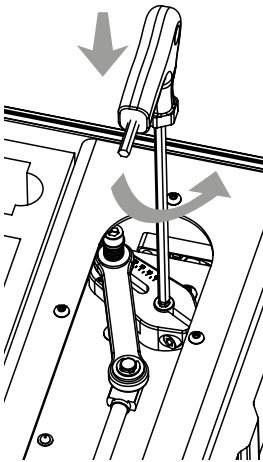
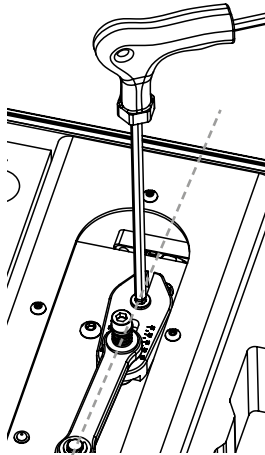

Figure 4.1
Figure 4.2
Insert the long end of the 5mm hex tool through the hole in the window above the crank. The tool should engage with the hexagonal key in the middle of the crank arm (fig. 4.1)
Rotate the hex tool in the appropriate direction so that the crank arm now points forwards in line with the slot in the window (fig. 4.2).
**Note:** sometimes it is not possible to adjust the crank position because the connecting rod is obscuring the hexagonal drive bolt shown in Figure 4.1 above. In this case you need to use the remote control to turn the motor a half turn or so until the 5mm hex tool will fit. See section 5 for details on the remote functions.
<ul style="list-style-type: none"> <li>• Stall test - disconnect receiver, set crank to maximum, run the machine at &gt; half speed. Place your finger over the outlet port - the machine should stall and the red stall LED should light up</li> <li>• Leak-down test: disconnect the power supply &amp; receiver. Using the hex tool, drive crank to position shown in fig. 4.1. Reconnect the receiver, drive crank to position shown in fig. 4.2. The sleeve should inflate and hold pressure &gt; 30 seconds</li> </ul>	<ul style="list-style-type: none"> <li>• Stall test - if the machine does not stall there is probably an internal air leak Contact F-Machine</li> <li>• Leak-down test - if the system does not hold pressure there is a small leak in the system. Find and fix the leak if external to the pump unit or contact F-Machine for assistance</li> </ul>